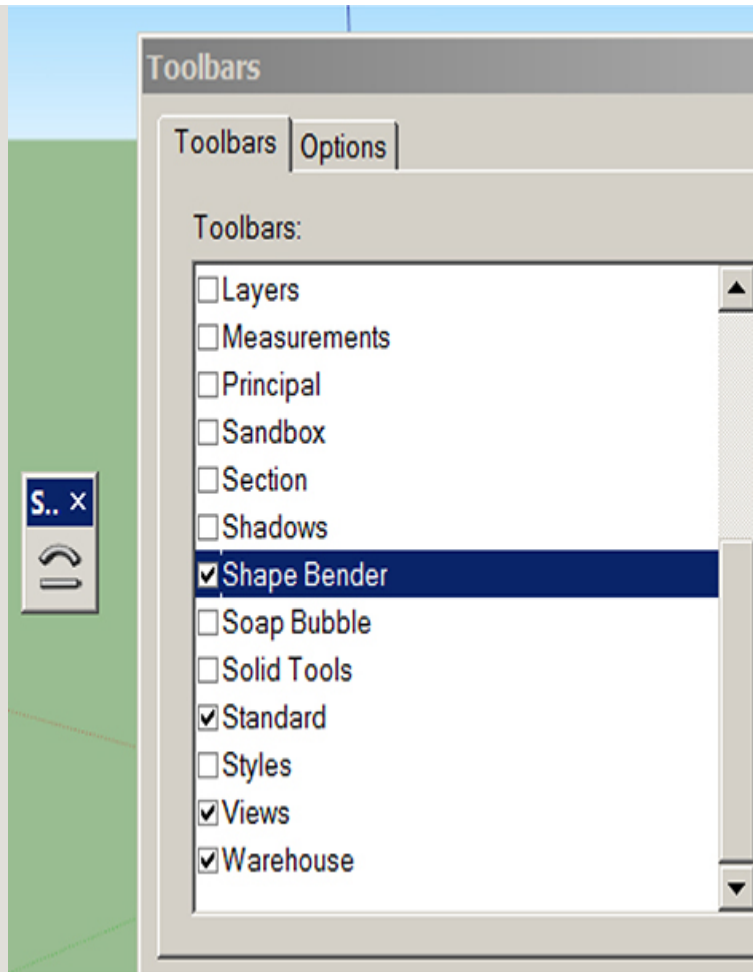

Figure 4-19 Turn on the CTL Shape Bender toolbar.
3. At View > Toolbars, turn on the CTL Shape Bender toolbar (Figure 4-19).